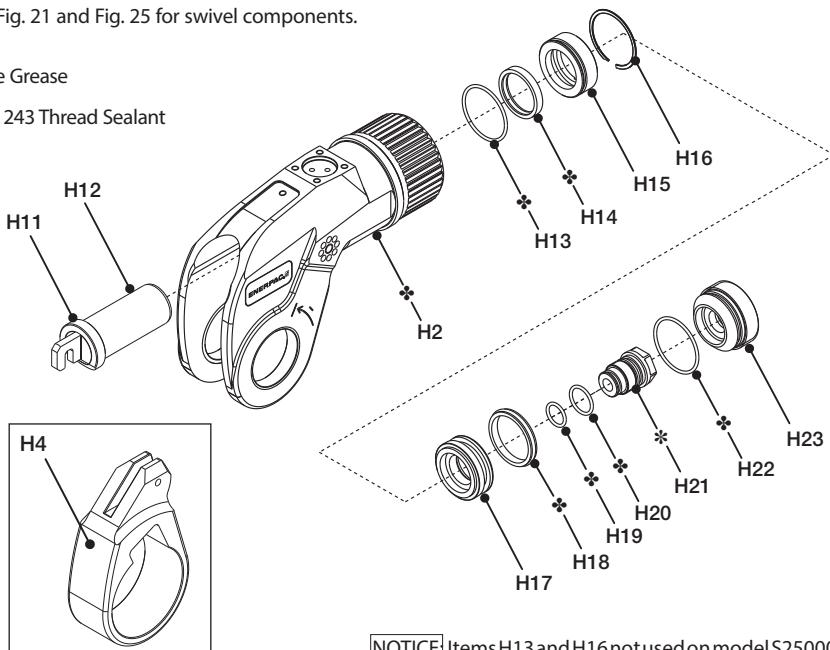

Fig. 22
### 5.3.2 Piston Removal and Disassembly (Fig. 22)
S11000X only (Fig. 22, 23 and 24)
- Piston Rod (Fig. 22, item H12)
### 5.3.5 Cylinder Bushing Installation, Models S1500X, S3000X, S6000X and S11000X only (Fig. 22, 23 & 24)